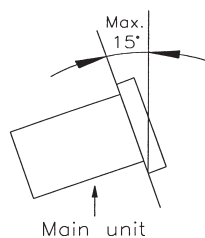

Figure 1
- The player will work normally when the main unit is mounted with the front panel within 15 degrees of the vertical plane. If the unit is tilted excessively, disks may not be loaded or unloaded properly. (Figure 1)